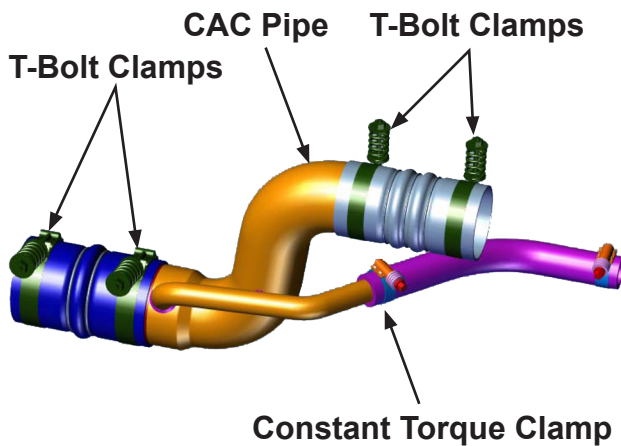

Figure 1
3. Remove and discard the CAC pipe by first loosening the T-Bolt clamps and then removing the constant torque clamp, and set aside for reinstallation (See Figure 1).